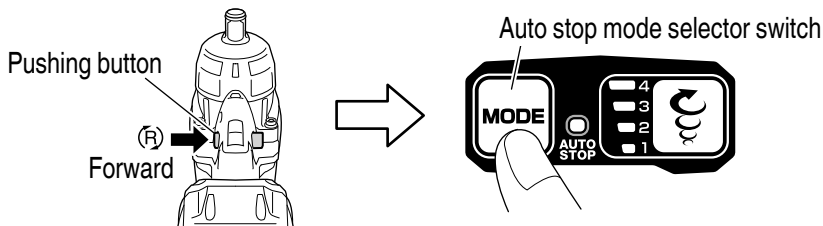

Fig. 23
- (3) Auto stop mode (**Fig. 23, Table 6**)